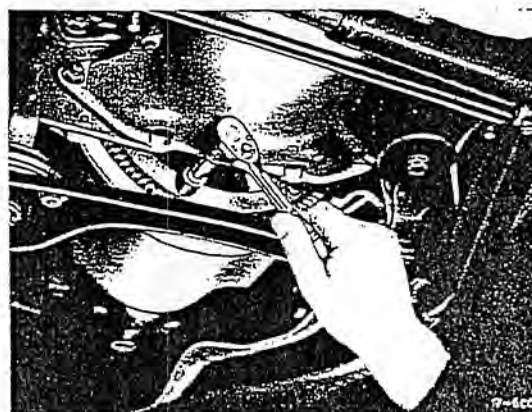

Fig. 25-15/6
11. Unscrew the six hexagon screws for fixing the hydraulic automatic clutch assembly to the flywheel and remove them. To do this, the crankshaft should be turned each time to the position giving easy access to the screw-heads (Fig. 25-15/6).